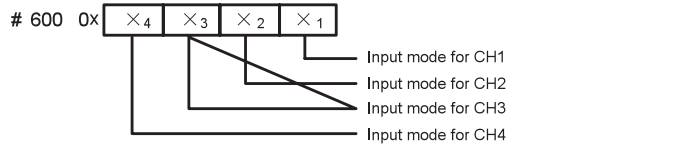

Figure 2-1 Mode setting element vs. channel
4. BFM#600: input mode selection, used to set the input modes of CH1 ~ CH4. See Figure 2-1 for their correspondence.